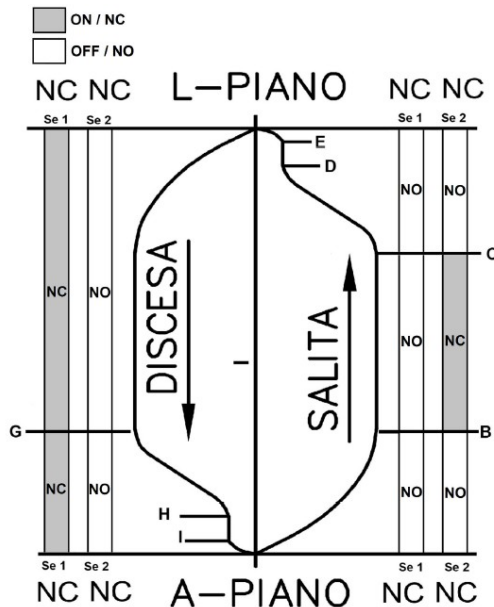
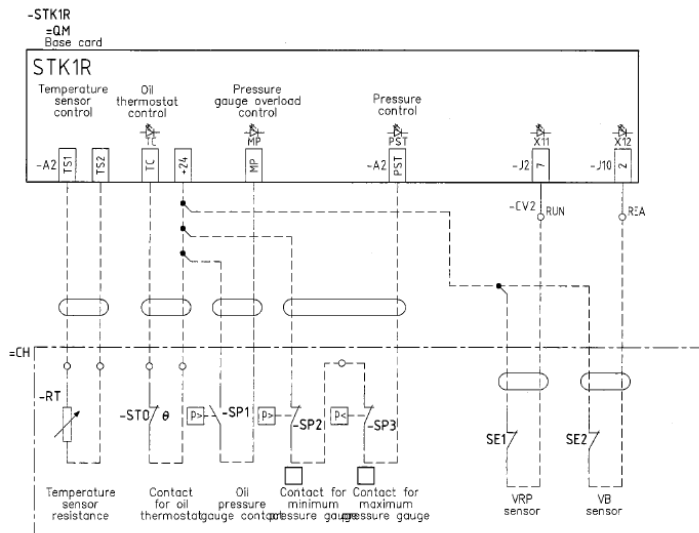

Figure 1
Figure 2
7. Make an upward and a downward run and check that Se1 and Se2 sensors switch during the run as specified by the manufacturer (see fig. 1), checking the status of the relative LEDs on the STK1R board (in the example of fig. 2, LEDs X11 and X12).